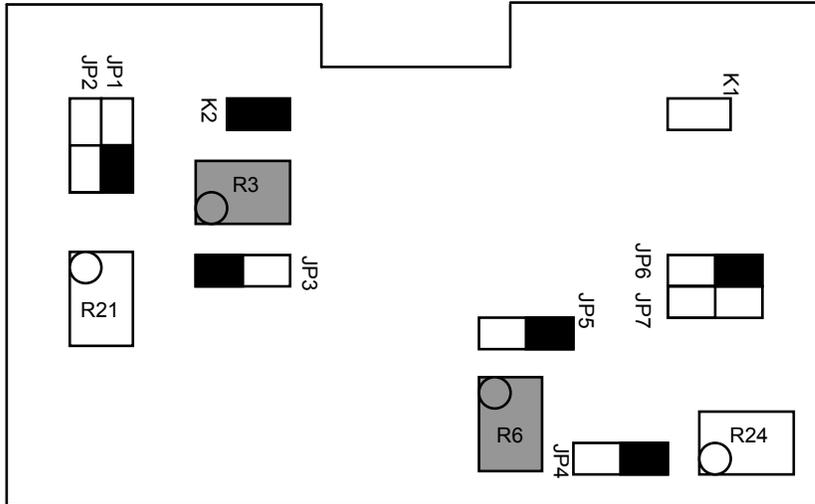

Figure 3. Jumper settings for resistor setpoint calibration using potentiometers connected to the PAVSET and ERSET pins.
1. Connect Jumper K2, connect jumpers JP1, JP3 and JP6 to position B (connected as shown in black box) and connect jumpers JP4 and JP5 to position A as shown in figure 3.